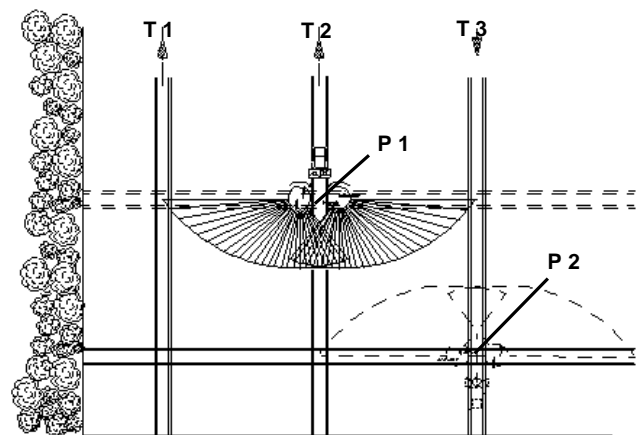

Fig. 42
**Open the shutter** when "driving up" approx. **on point P1** (Fig. 42), when the spreader is in line with the 2nd tramline on the headlands (broken line).
**Close the shutter** when "driving down" **on point P2** (Fig. 42), when the spreader is in line with the 1st tramline on the headlands.